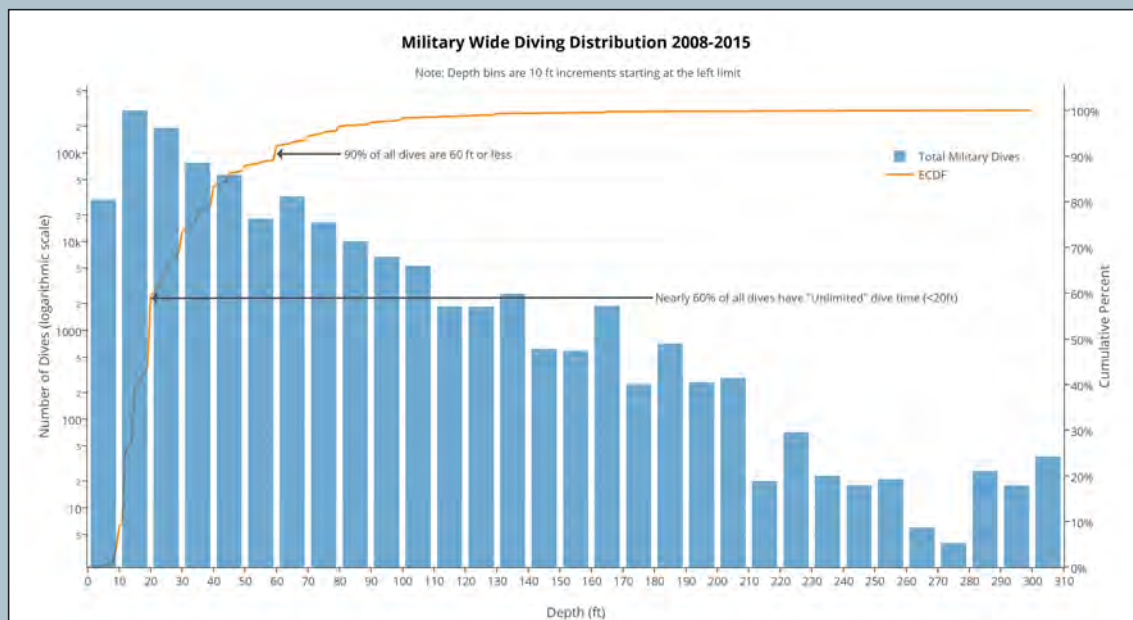

Figure 1
Figure 1 is a traditional histogram showing all military dives since 2008. All services, types of diving rigs, and tasks are represented. Some technical notes: (1) dives are broken into incremented 10 foot "bins," starting from the left limit; (2) The blue columns represent the total number of dives on a logarithmic scale; and (3) The orange line represents the cumulative percentage (Empirical Cumulative Distribution Function, ECDF) of dives achieved to a given depth.